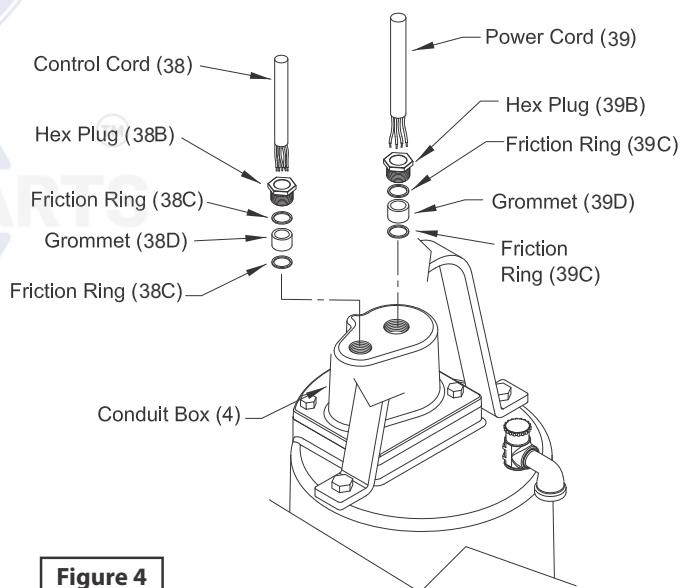

Figure 4
Conduit Box Assembly - Check power (38) and control cables (39) for cracks or damage and replace complete conduit box (4) if required. (See Figure 4) Bring motor wires through opening in top of motor housing (3), check sleeving and replace if damaged. Position square ring (5) in conduit box (4) and reconnect leads using connectors and insulators. See Figures 5, for wiring schematics.
Remove gland nuts (38B) and (39B), friction rings (38C) and (39C), and grommets (38D) and (39D) from conduit box (4), inspect and replace if damaged (See Figure 4). Reassemble by inserting one friction ring, grommet, one more friction ring and gland nut into conduit box. Torque gland nuts to 15 ft/lbs to prevent leakage.